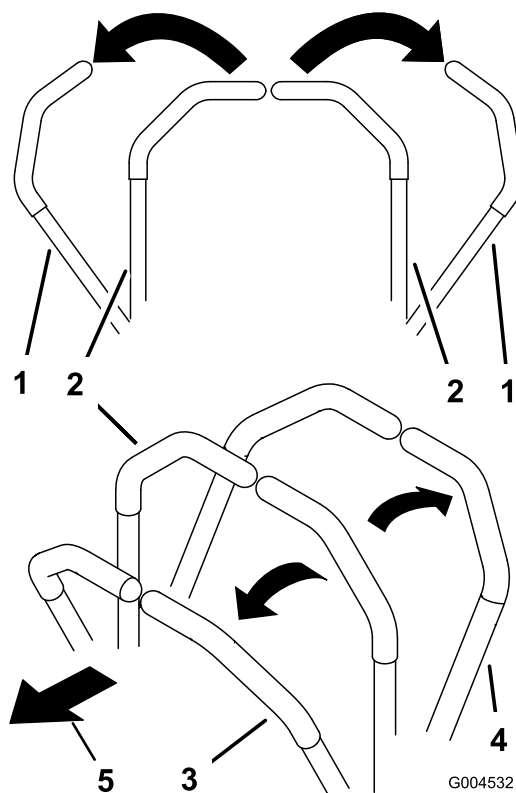

Figure 18
1. Move the motion-control levers (Figure 18) out to the NEUTRAL-LOCK position.
- To go forward, slowly push the motion-control levers forward (Figure 18).
To go straight, apply equal pressure to both motion-control levers (Figure 18).
To turn, move the motion-control lever toward neutral in the direction you want to turn (Figure 18).
- To go backward, slowly pull the motion-control levers rearward (Figure 18).
To turn, release pressure on the motion-control lever toward the direction you want to turn (Figure 18).